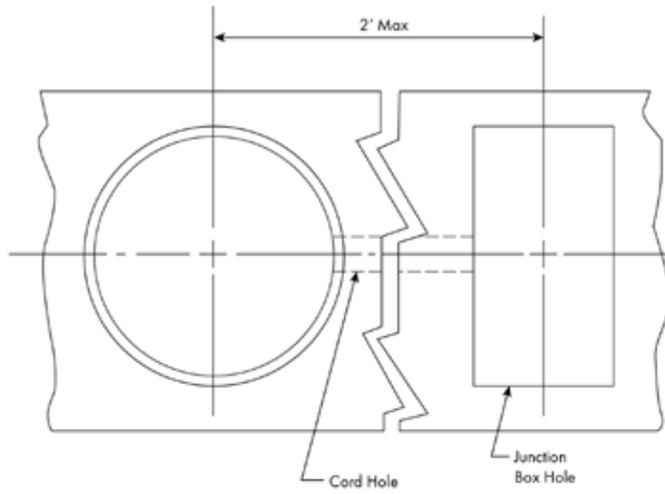

Fig. 2
3. Cut a hole for the junction box into the inside (cold side) of the panel. The size and shape of the hole will suit the junction box to be used. Locate the box within two (2) feet from the PRP (Figure 2).
4. At mid-point in the 3-5/8 inch hole, provide a hole for the cord to pass through the insulation and into the junction box hole (Figure 2).